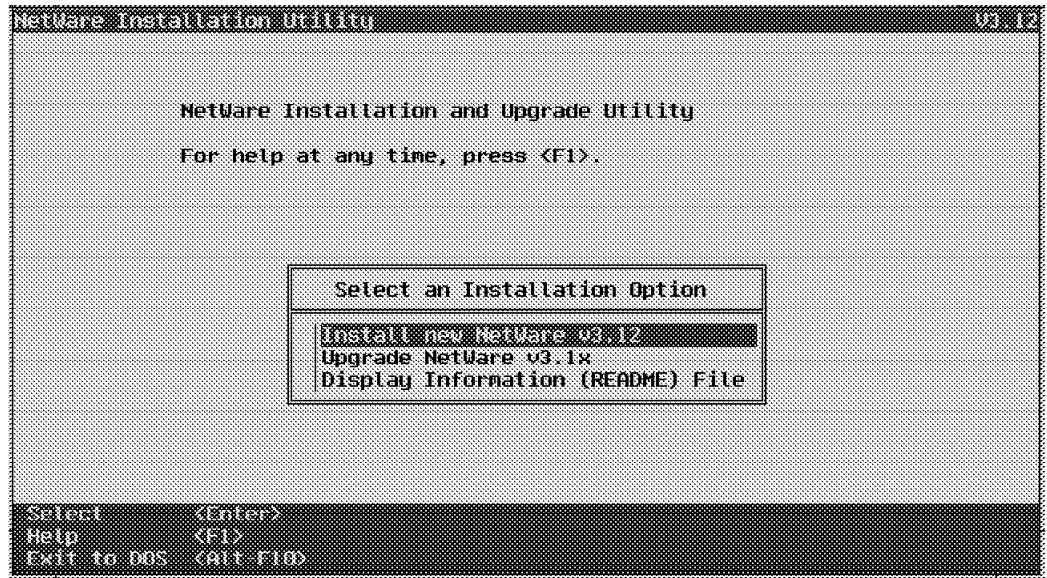

Figure 81. NetWare Installation
5. A screen like the one in Figure 81 on page 129 will appear.